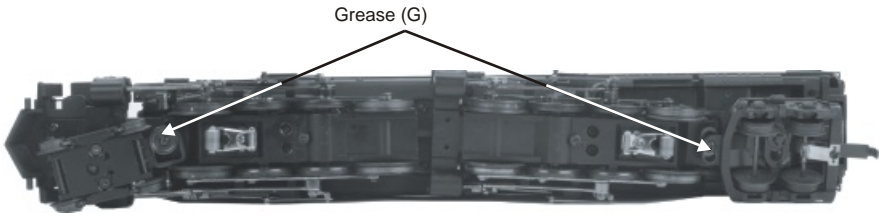
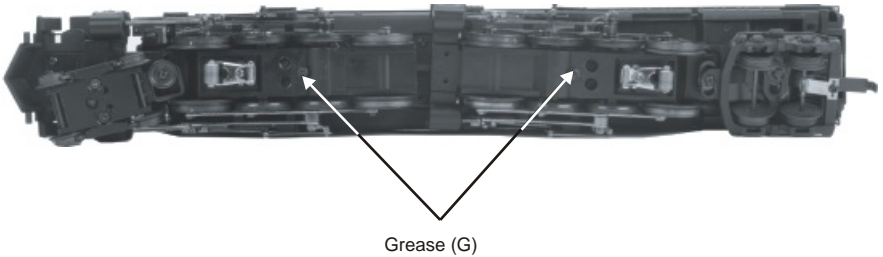

Figure 6: Lubricating the Grease Points
Figure 7: Motor Gearing Grease Plate Screws
2. First remove the six body mount screws to separate the chassis from the boiler and tender shell. Four of the screws in the engine are located through holes in the drive blocks. Truck may need to be moved to see the screws. 3. Remove the Phillips screw (marked "GREASE") located at each set of wheels (Fig. 6) and the gearbox cover screws (Fig. 7).
Follow the grease points shown on Fig. 6.